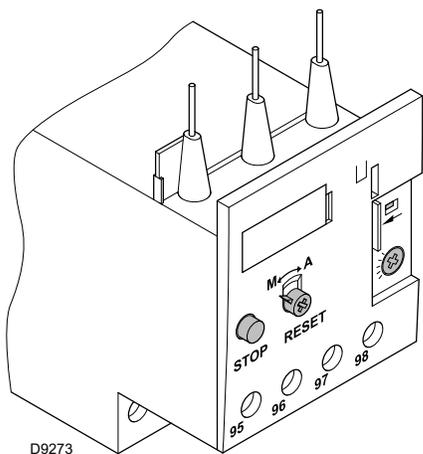

Fig. 37
The electro-mechanical thermal relay (Fig. 37) is used to avoid damage to the motor owing to a strong increase in absorption or the lack of a phase.
- To reset, in the case of an intervention of the thermal relay, press the button "RESET" (Fig. 37).
- The button "STOP" (Fig. 37) opens the NC (95-96) contact and stops the motor.